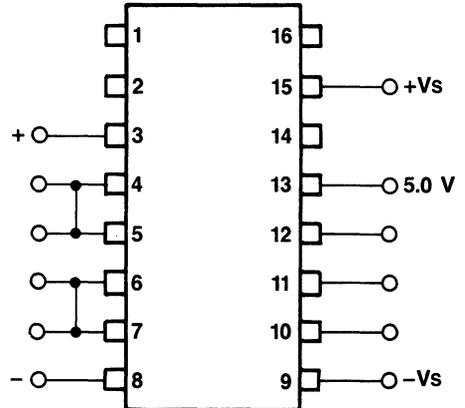

Figure 20. Darlington Inputs
- As shown in Figure 20, Darlington inputs are used by connecting lead 4 to 5 and lead 6 to 7, using leads 3 and 8 as the positive and negative inputs, respectively. This connection provides higher input impedance at the expense of additional input offset voltage.